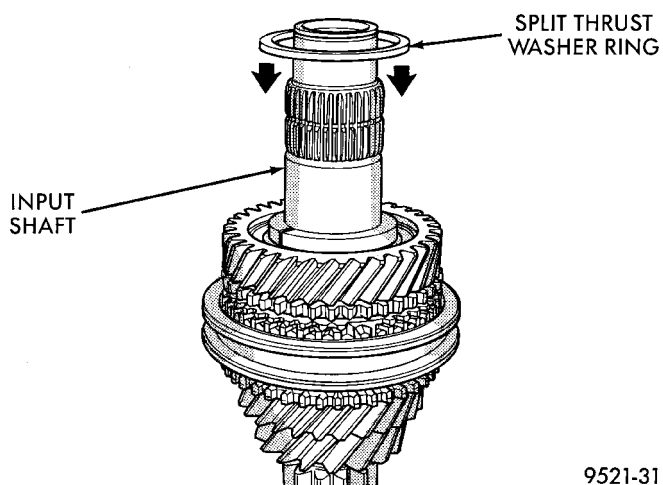

Fig. 93 Retaining Ring Installation
(9) Install split thrust washer retaining ring (Fig. 93).